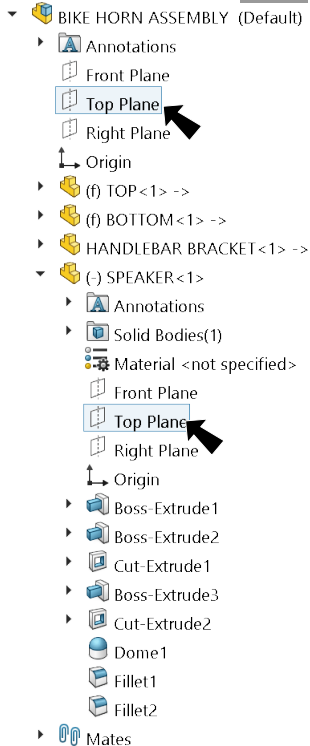

Fig. 5
Step 2. Expand the flyout Feature Manager design tree (click ) in the top left corner of the graphics area, expand **SPEAKER** and click **Top Plane** , **Fig. 5**.